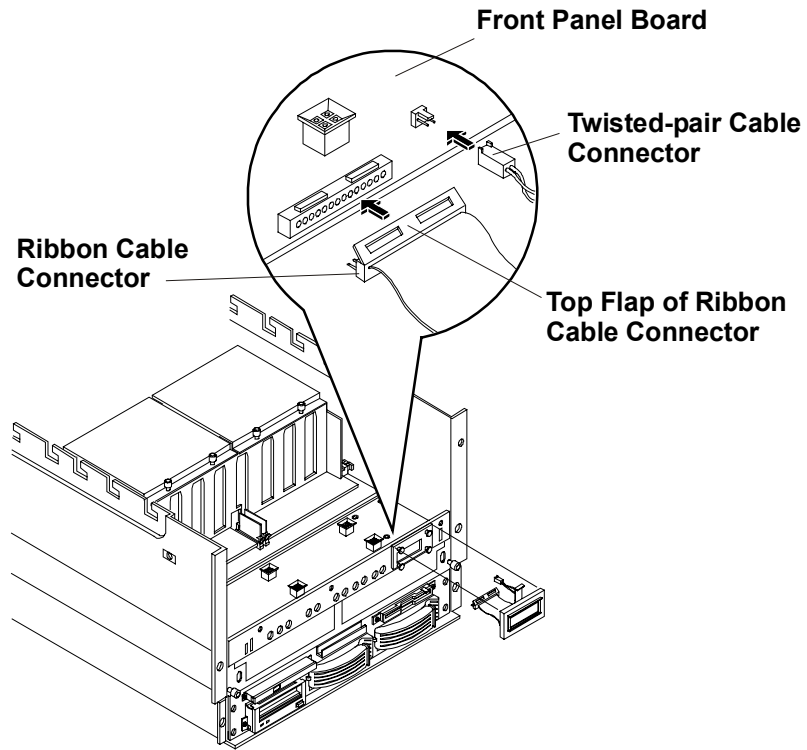

Figure 2-15. Reconnecting the LCD Cables (HP NetServer LXr 8500 Shown)
1. Push the ribbon cable connector onto the corresponding socket, as shown in Figure 2-15. Then push down gently on the top flap to secure the connector.
2. Push the twisted pair connector onto the corresponding socket, as shown in Figure 2-15.